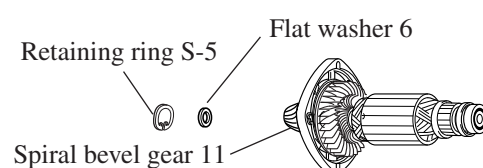

Fig. 2
- (3) Detach retaining ring S-5 and flat washer 6 from armature as illustrated in Fig.2.